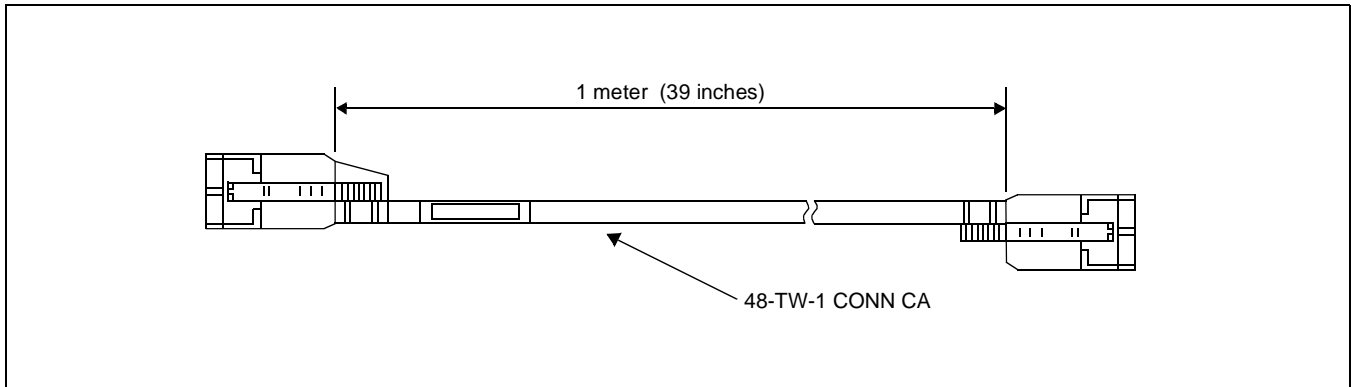
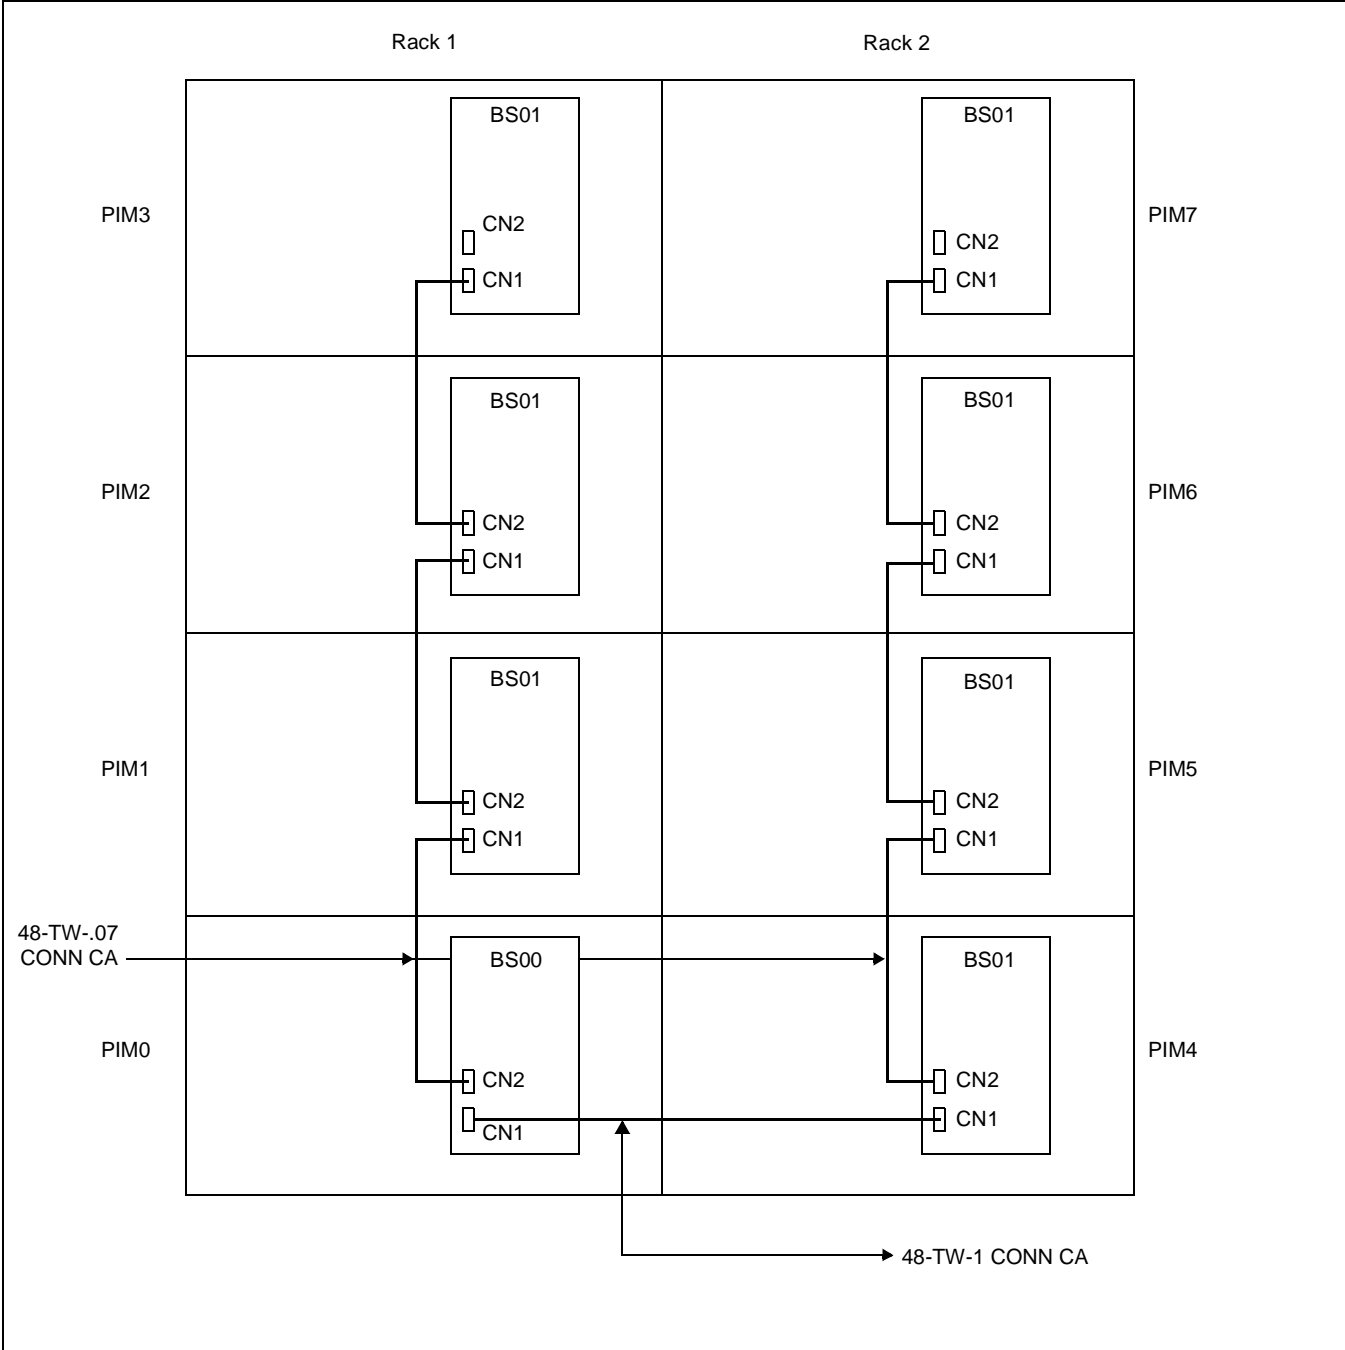

Figure 003-19 BUS Cable
Figure 003-20 Connection of the BUS Cables
(14) When the system is a multiple-rack configuration, connect the PN-BS00 in rack 1 to the PN-BS00 in rack using BUS cable, as shown in Figure 003-19 and Figure 003-20.